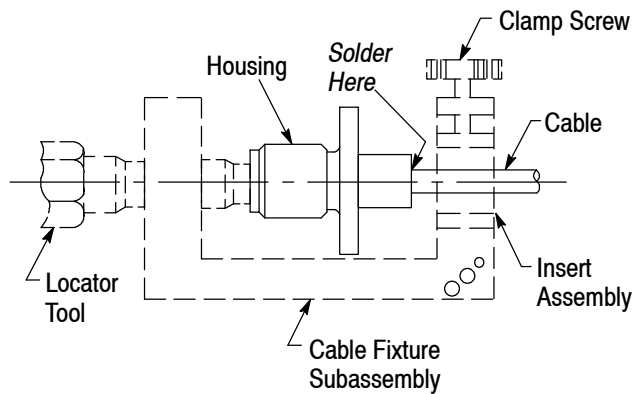

Figure 4
9. Place the assembly in the cable fixture subassembly as shown in Figure 4. Clamp the cable fixture subassembly vertically in the vise. Make sure to tighten the clamp screw to secure the cable, and tighten the locator tool to seat the housing firmly against the cable.
10. Using solder made of 60% tin and 40% lead, join the housing to the cable at the location shown in Figure 4.